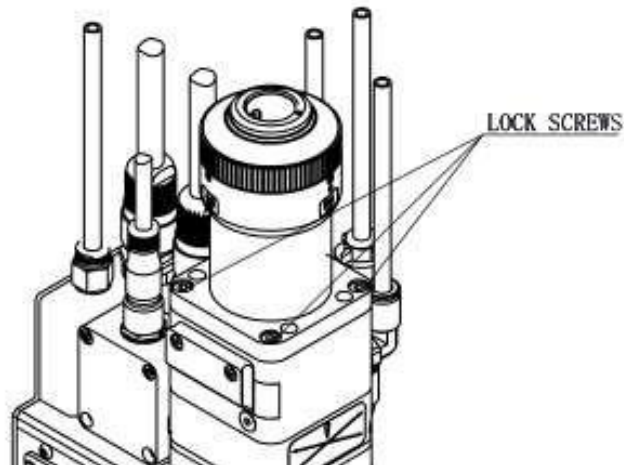

Figure 5 Adjustment of fiber
- Turn the QBH handwheel clockwise. It is in place when you hear the "Da" voice, then pull the handwheel up and turn clockwise to end. (see Figure 5)